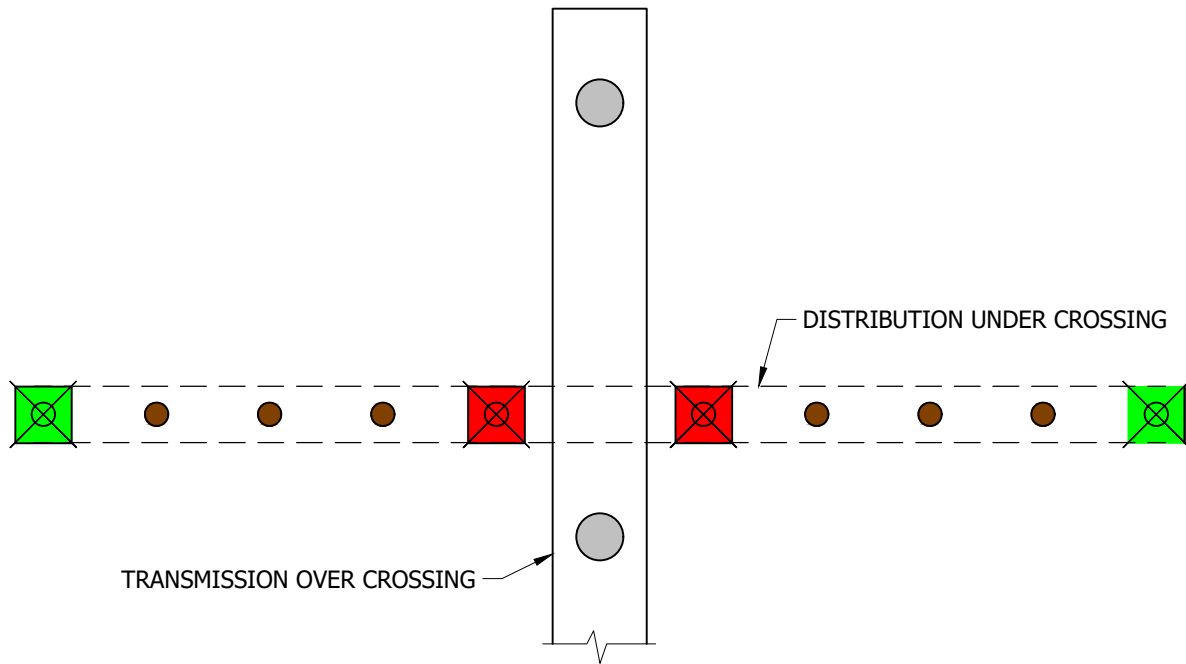

FIGURE 3
- A. CROSSING MARKERS TO BE PLACED ON POLE TOP. A WARNING (RED) CROSSING MARKER SHALL BE PLACED ONE SPAN LENGTH AWAY FROM WHERE A CIRCUIT/TL CROSSES OVER THE TOP OF ANOTHER CIRCUIT/TL AN INDICATION (GREEN) CROSSING MARKER SHALL PRECEDE A WARNING CROSSING MARKER BY FOUR SPANS. SEE FIGURE 3.